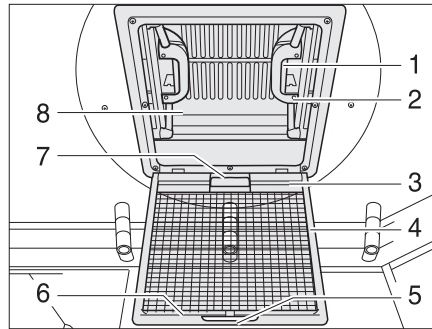

Fig. 45 Skylight with snap latch
- Pull on the handle (Fig. 45,5).
- Fold the insect screen (Fig. 45,4) downwards.
- Push the spring-loaded latch (Fig. 45,1) towards the inside of the skylight (Fig. 45,8). At the same time use the handle (Fig. 45,2) to press the skylight upwards.
- Swing the insect screen upwards (Fig. 45,4) until it latches in place.
- Using both handles (Fig. 45,2), pull down the skylight (Fig. 45,8) with force until the two snap latches (Fig. 45,1) lock into place.
- Pull the handle (Fig. 45,7) of the blind and hook the hook rail (Fig. 45,3) into the retainer (Fig. 45,6) on the insect screen.
- Release the hook rail (Fig. 45,3) from the retainer (Fig. 45,6) and feed the blind back slowly.